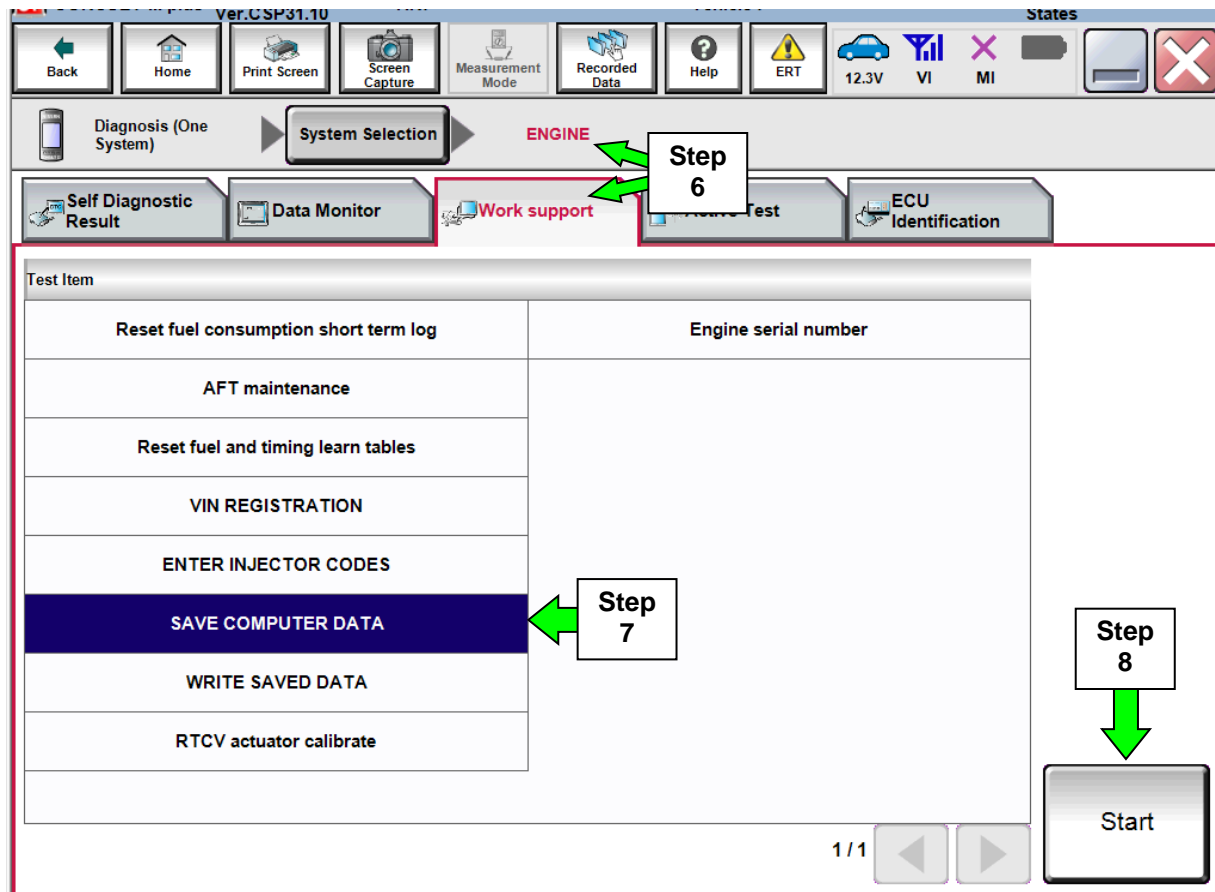

Figure 2C
6. Navigate C-III plus to ENGINE > Work Support (see Figure 2C).